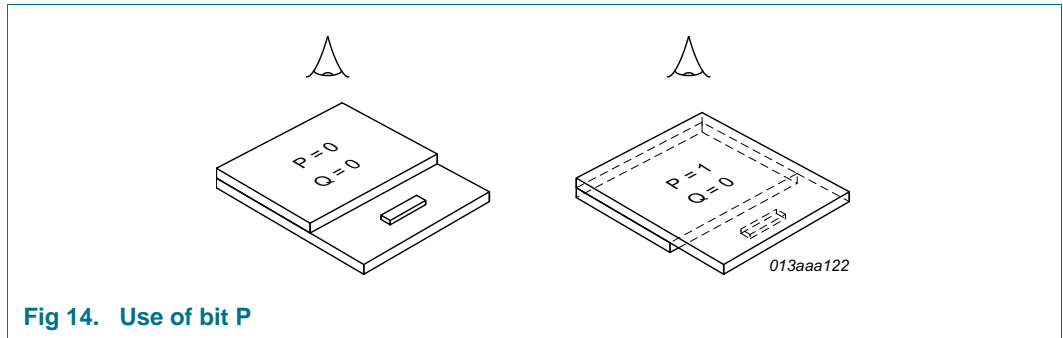

Fig 14. Use of bit P
**Bit P:** The P bit is used to flip the display left to right by mirroring the column data, as shown in Figure 14. This allows the display to be viewed from behind instead of front and enhances the flexibility in the assembly of equipment and avoids complicated data manipulation within the controller.